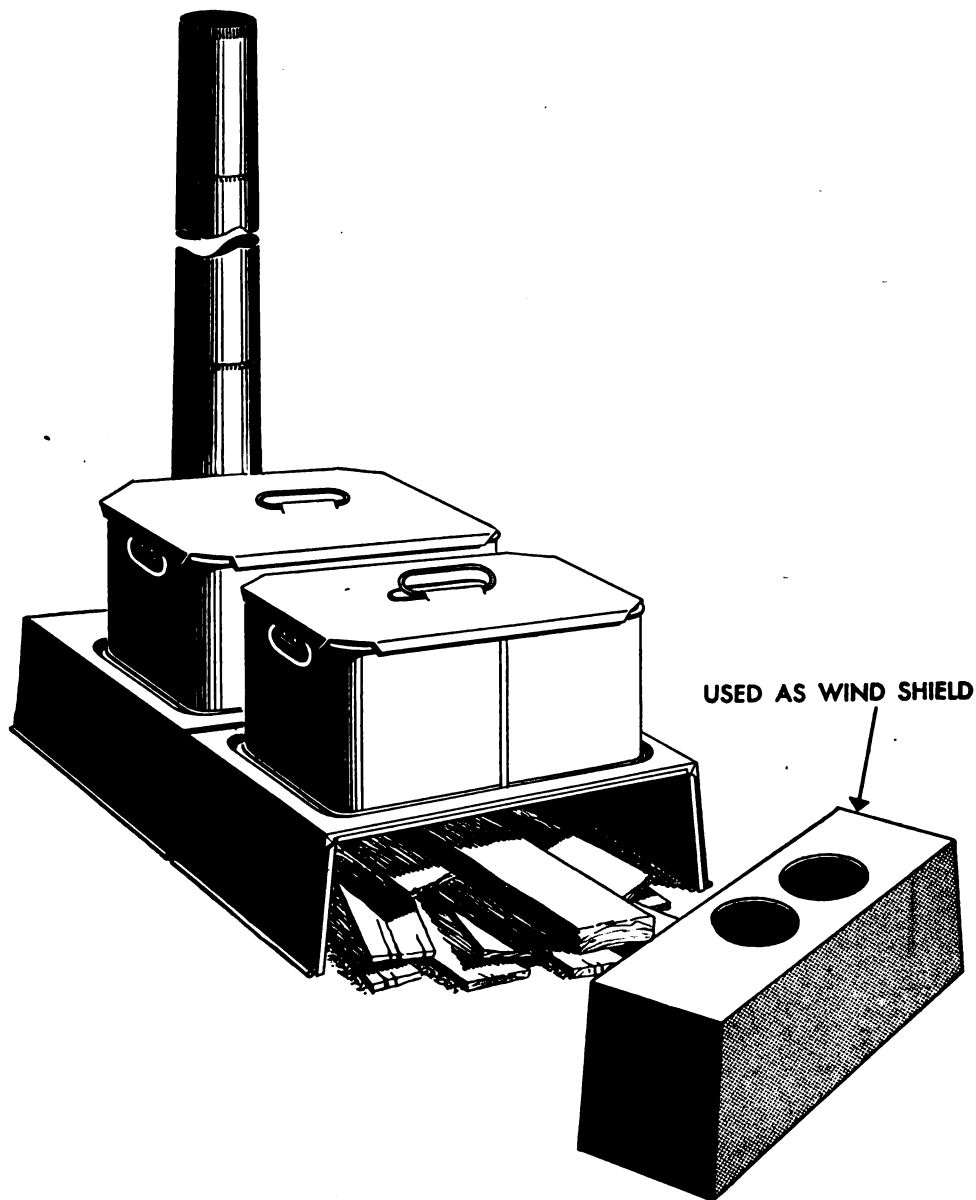

Figure 19. Outfit, cooking, pack, using wood fire.
(5) Straighten the pot seats occasionally to maintain airtightness.
(6) See section II, appendix, for a list of parts for mechanical maintenance.
c. USING A WOOD FIRE. (see fig. 19). (1) Assemble the range without the burner section.
(2) Dig a trench 3 or 4 inches deep and 15 inches wide under the front section of the firebox.
(3) Build a fire in the trench, keeping it toward the front.
(4) The burner section may be used as a wind-shield or as a draft control.